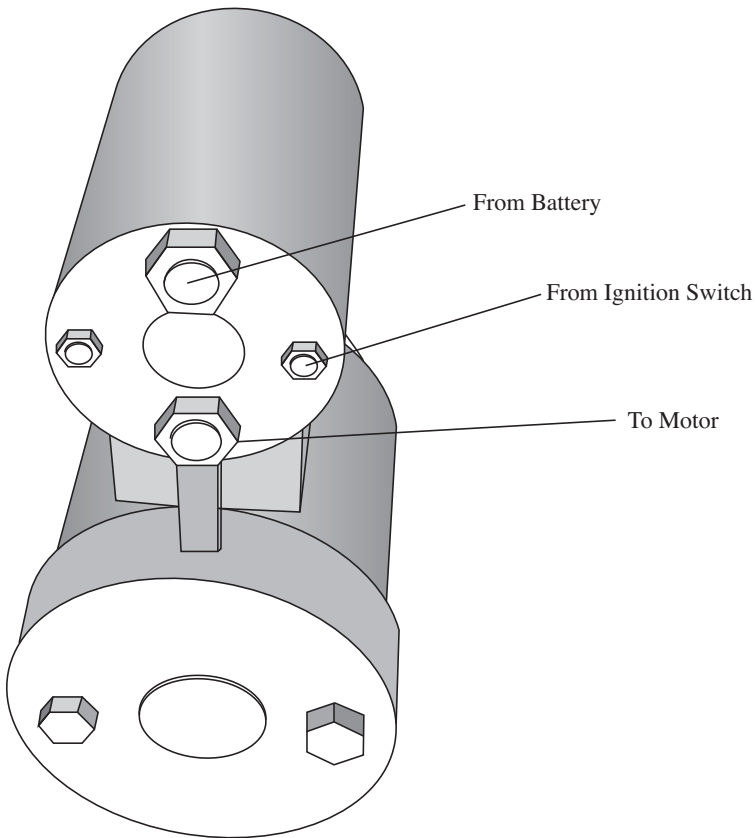

FIG. 4-12 *The solenoid (actually a relay) may be mounted on the starter motor or remote from it.*
1. Find the wire running between one of the smaller terminals at the solenoid and the switch (Fig. 4-12).